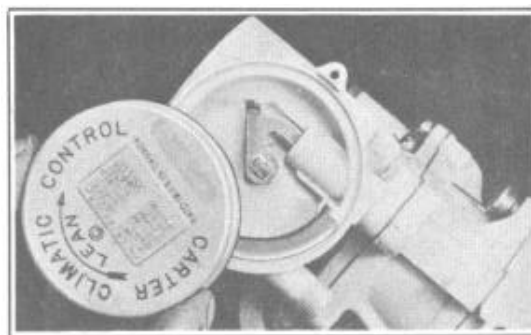

FIGURE 51
27. Install piston housing and thermostatic coil assembly, Figure 51. Install coil housing assembly with indicator marks at bottom and rotate counter clockwise to center graduation.